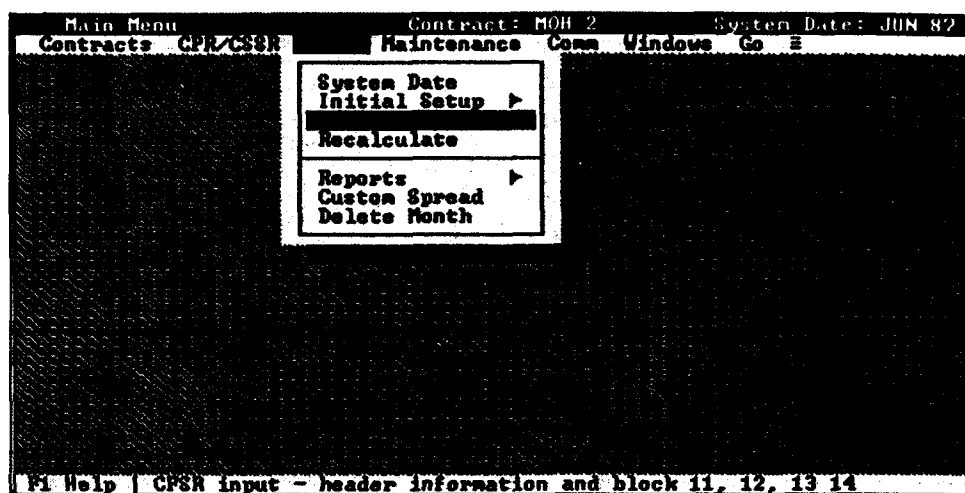

Figure 4-6
Currently, only a manual method of entering data is supported. When you select **Manual Input** from the CFSR pull-down menu, you are given a choice between two menu options: (1) Header Information and (2) Blocks 11, 12, 13, 14. (Figure 4-6).